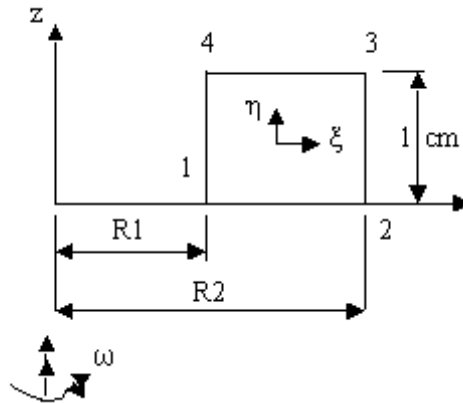

Figure 5
5. Calculate the nodal forces of the four node axisymmetric finite element shown in figure5 when the element is subjected to centrifugal loading. [16]